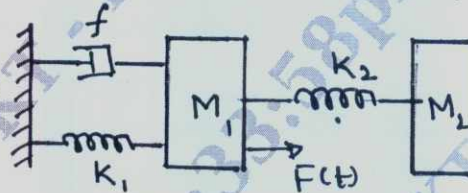

Fig.Q3(a)
- 3 a. Find the transfer function of mechanical system shown in Fig.Q3(a).